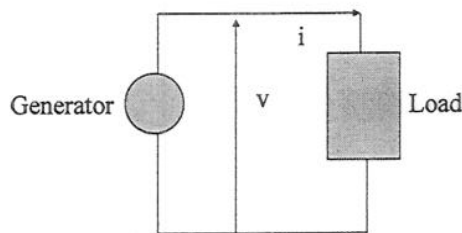

Figure Q1.: Single phase AC circuit
- (a) Consider a single phase AC circuit shown in Figure Q1. Expressions for generator voltage and current are given by: